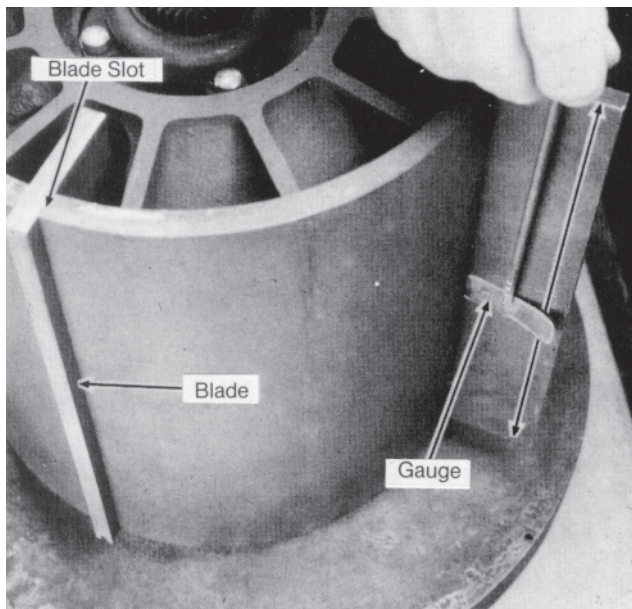

Figure 27 –Checking Blade Slot Clearance
- Turn the rotor right side up and check clearance through length of slot, Figure 27. Compare with Clearance Guide.